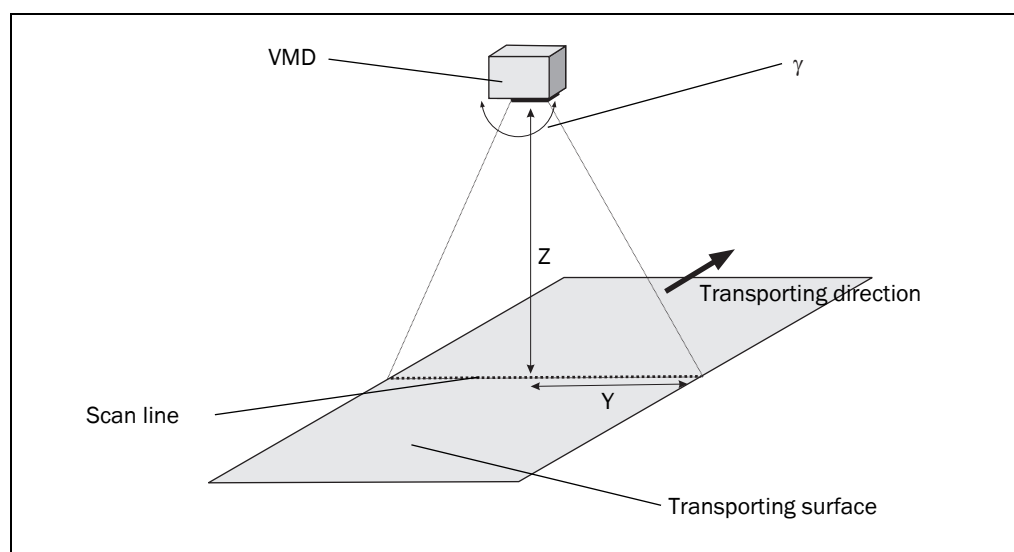

Fig. 25: Angle γ and Y coordinate and Z coordinate
- Enter the GAMMA, Y COORDINATE AND Z COORDINATE parameters (see Fig. 25). A rough entry is adequate. The assistant will determine the exact parameters during the subsequent steps.